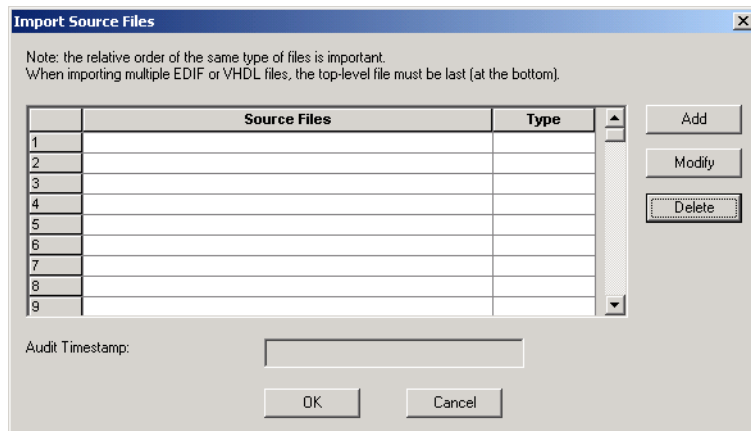

Figure 2-4. Import Source Files Dialog Box
1. **In the File menu, click *Import Source Files*.** This displays the Import Source Files dialog box, as shown in Figure 2-4.